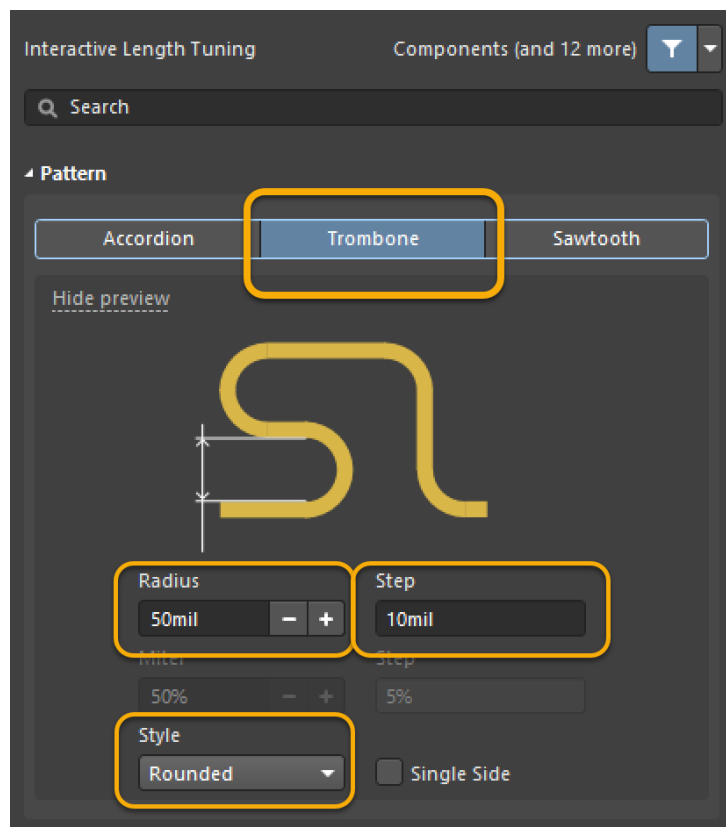

Figure 28. Trombone pattern
- b) Press the **TAB** key to open the *Properties* panel. Use Figure 28 as a reference to change the following settings: